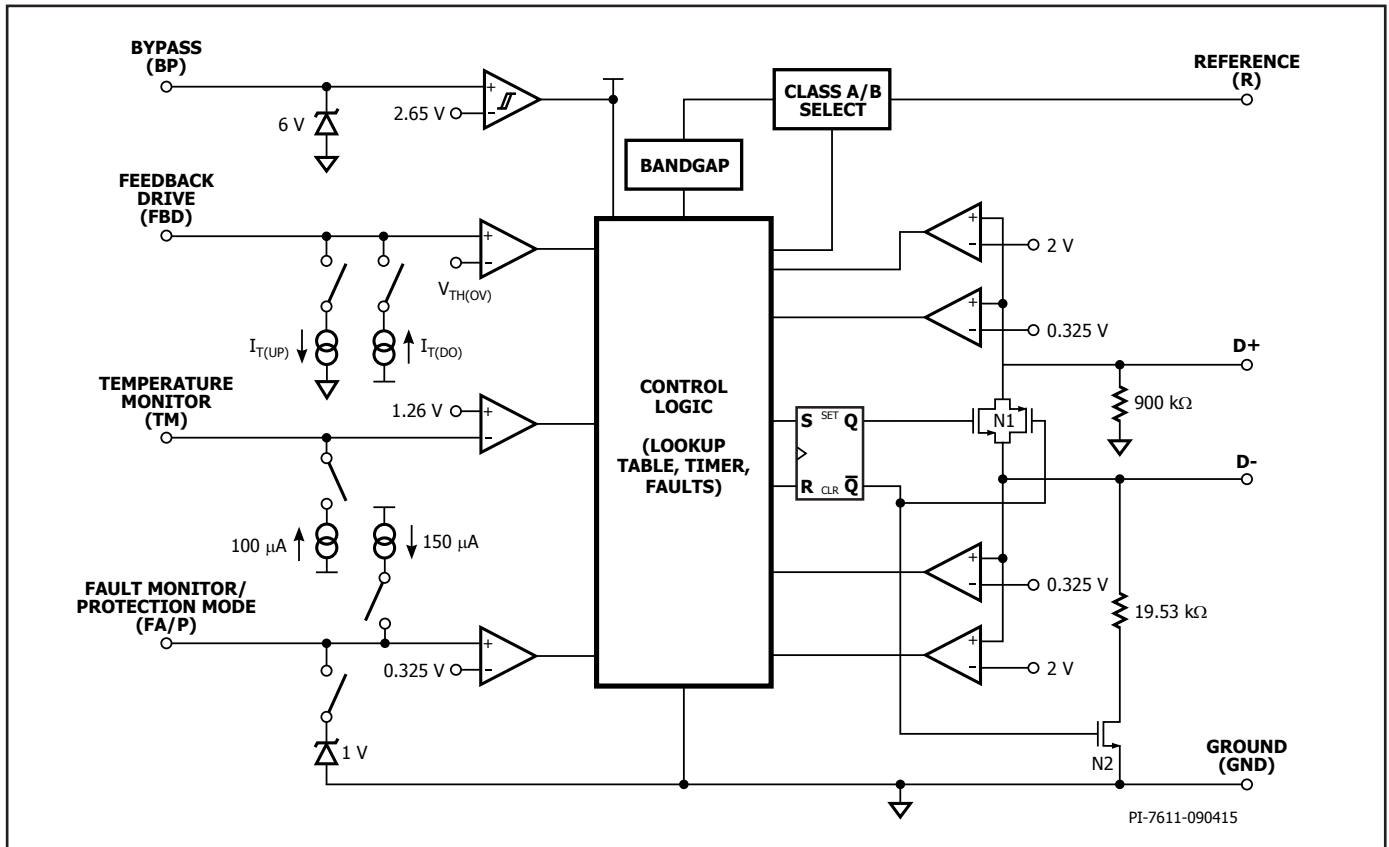

Figure 3. Functional Block Diagram.
At power-up CHY103 turns on switch N1 (see Figure 3) short-circuiting USB data lines D+ and D- for the initial handshake between AC-DC adapter (DCP) and powered device (PD) as described in the USB Battery Charging specification revision 1.2. After the USB BC 1.2 handshake is completed, CHY103 will turn off switch N1 if it detects a Quick Charge 3.0 or Quick Charge 2.0 compliant PD. At this point the Quick Charge 2.0 handshake followed by the Quick Charge 3.0 handshake can take place as described in the Quick Charge 2.0 and Quick Charge 3.0 protocol specification. Upon completion of the Quick Charge 2.0 and Quick Charge 3.0 handshakes, CHY103 will turn on switch N2 (see Figure 3) connecting a 19.53 k $\Omega$  pull-down resistor to USB data line D-.
When the USB cable is unplugged the voltage level at D+ is pulled down by CHY103's internal resistor (see Figure 3). Once it drops below 0.325 V CHY103 will enter default mode (switch N1 is on, switch N2 is off) and sets the default output voltage of 5 V.